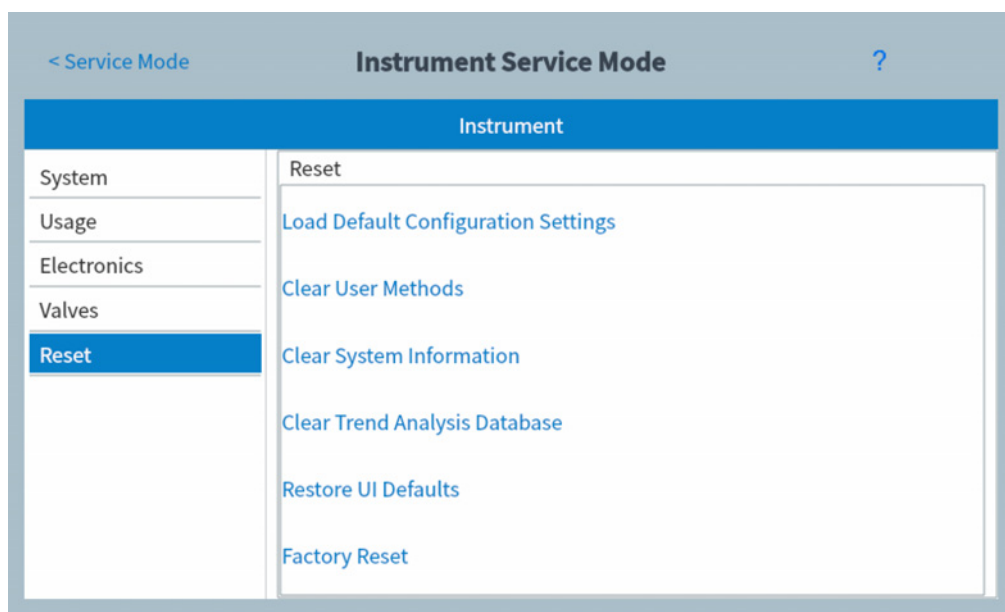

Figure 40 Reset page
- 1 From the System Settings page, press the **Reset** page selection button. The Reset page appears. See Figure 40.